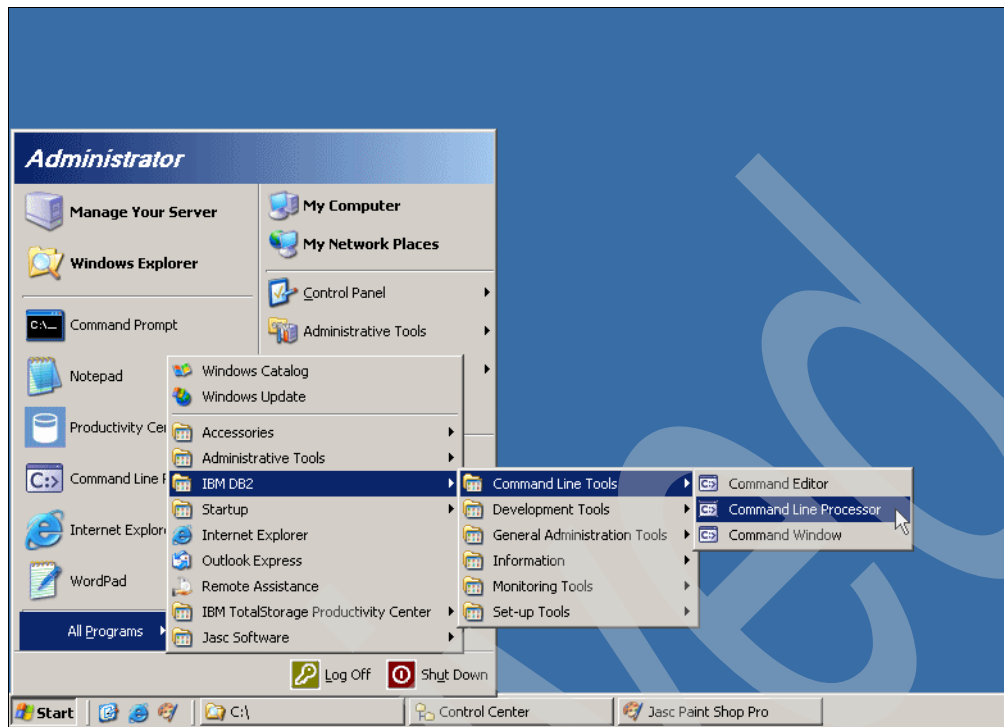

Figure 3-8 Launch a DB2 command line processor
3. Launch a DB2 command line processor as in Figure 3-8 on page 75 and issue the commands as in Example 3-8 on page 76.